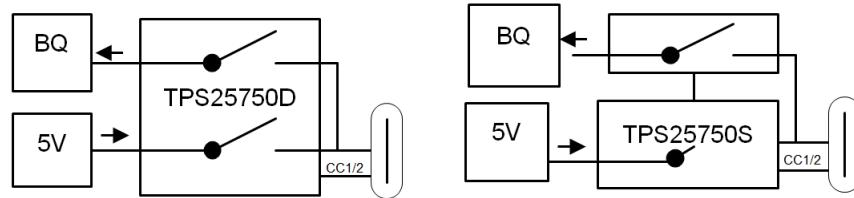

Figure 10-3. Power Source and Sink configuration with 5V DC and Battery Charger (BQ)
Figure 10-3 shows the configuration where a 5-V DC is connected to the source path and a Battery Charger (BQ) is connected to the sink path.